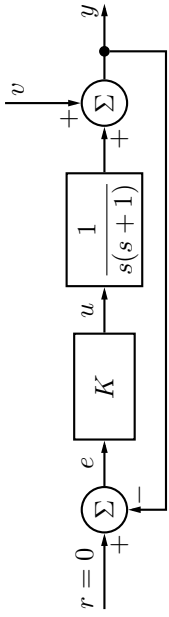

Figure 6.1a
6.1 Consider the control system in Figure 6.1a where  $v(t)$  is a sinusoidal disturbance,  $v(t) = \sin(t)$ . Compute the absolute value of the sensitivity function at  $\omega = 1$  rad/s as a function of  $K$ . How must  $K$  be selected if the amplitude of  $y(t)$  shall be less than the amplitude of  $v(t)$  at this frequency?